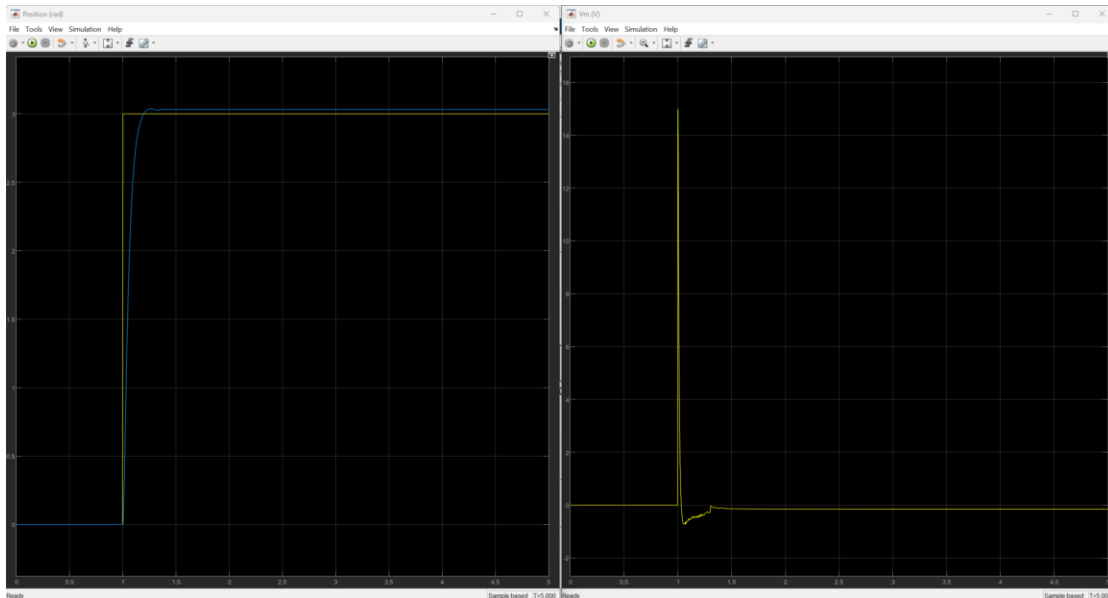

Figure 3: Screen capture of PD control with a step input signal.
9. Save a Screenshot of the step response, the response should be like Figure 3 below: